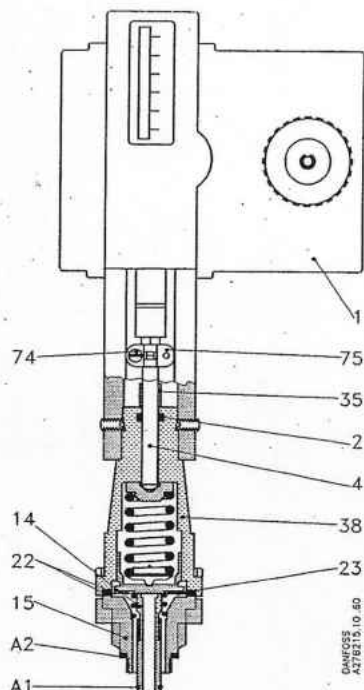

Fig. 1. CVPM
EVM(NC)fig. 1 and 2
EVM(NC) fig. 1 and 2